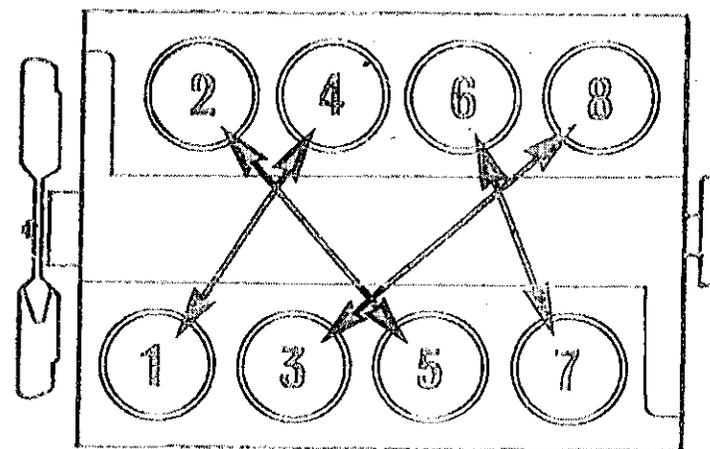

Fig. 14 Respective cylinders for valve tip clearance check.
Left bank (see fig. 14).
If necessary, the valve tip clearances can be checked/adjusted in the firing order 1, 8, 7, 5, 4, 3, 6, 2. To do this set the valves of the other cylinders (see fig. 14) to the position given in (1) above in the sequence 4, 3, 6, 2, 1, 8, 7, 5.